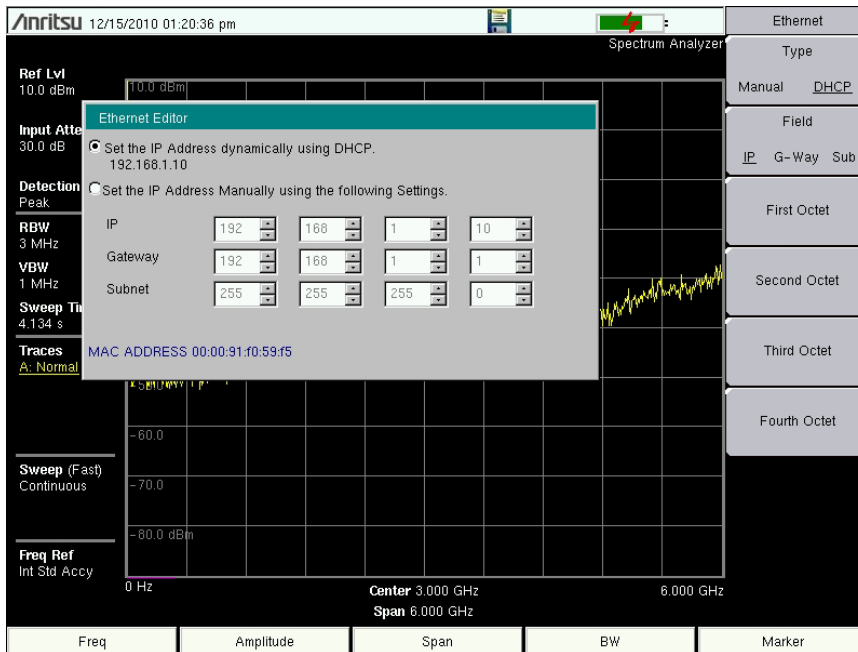

Figure 7-1. IP Address Assigned Using DHCP
To display the IP address with the instrument on, press the **Shift** key, then the **System** (8) key, then the System Options soft key and the Ethernet Config soft key. The IP address will be displayed as shown in Figure 7-1. The image on the display panel of your Site Master may differ from the image shown here.